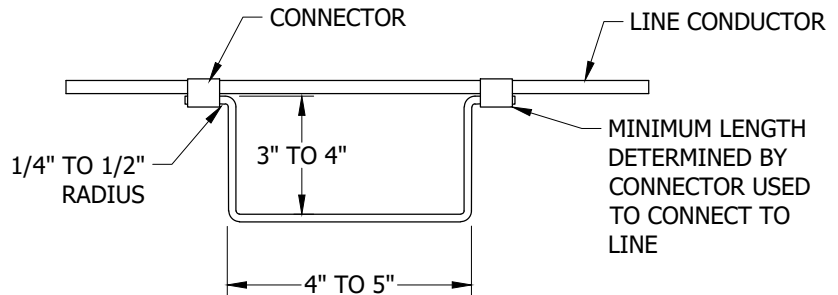

FIGURE 7
#6 & #6/3 (B)	SEE FIGURE 7
- (A) THE RECOMMENDED TORQUE FOR MAIN AND TAP CONNECTIONS IS 15-FOOT-LBS.
- (B) HANDMADE STIRRUPS SHALL BE MADE OF NUMBER 4-3 STRAND COPPER, SHAPED AS SHOWN IN FIGURE 7. USE COPPER COMPRESSION CONNECTORS AS REQUIRED.
- (C) COPPER WEDGES DO NOT COME WITH BAILS. BAILS MUST BE ORDERED SEPARATELY. THE STOCK NUMBER FOR THE BAIL SHOWN IN TABLE 2 WILL WORK FOR ALL THE COPPER WEDGE TAPS LISTED.
- (D) SEE OH783 FOR INSTALLATION NOTES.
- (E) PREFERRED POSITION IS WITH OPENING FACING THE POLE, HOWEVER ALTERNATE POSITION MAY BE UTILIZED DEPENDING UPON THE WORK METHOD BEING UTILIZED AT THE TIME (E.G. BUCKET TRUCK).
- (F) WHEN TAPPING LINE CONDUCTOR WITH A HOTLINE CLAMP, USE WEDGE CONNECTOR/STIRRUP COMBINATION.